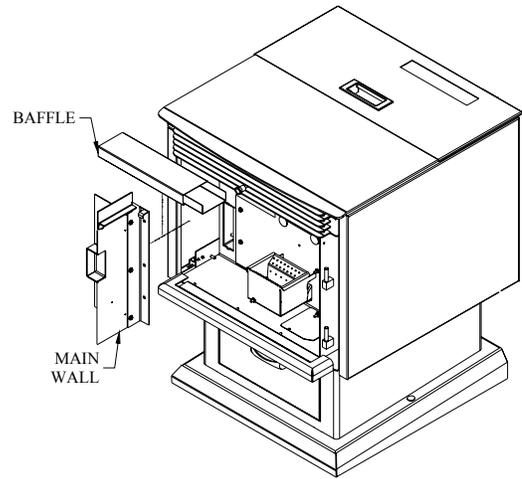

Figure 42
- c. With the door closed, clean heat exchanger tubes by sliding the cleaning rod back and forth. (see Cleaning section and Figure 42 & 43) .